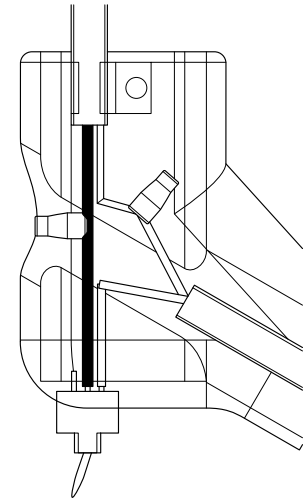

FIGURE 2
5. Using wire strippers and a crimper, make the following connections (**Figure 2**):
6. Align and seat the light switch into the housing, then re-install the cover and fasteners. Ensure that the wiring is not being pinched between the covers. **Figure 2.**